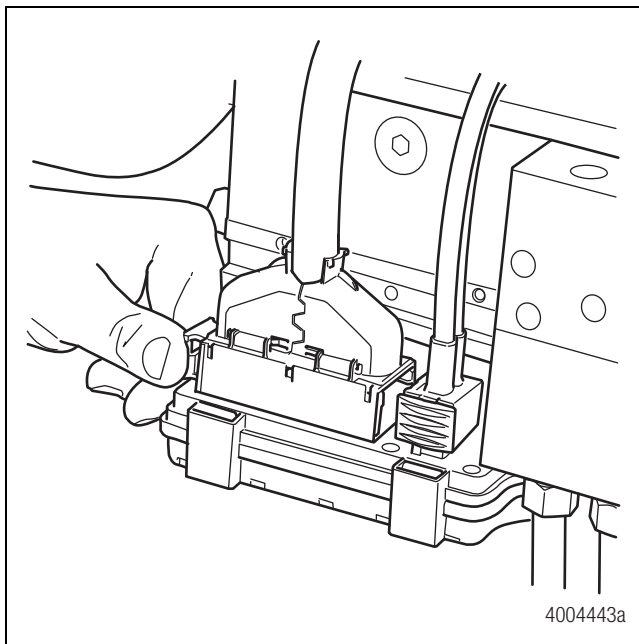

Figure 4.24
5. Attach the 31-pin harness and then the two-pin power connector to the ECU. Push the latch into position to lock the connection. Figure 4.24.